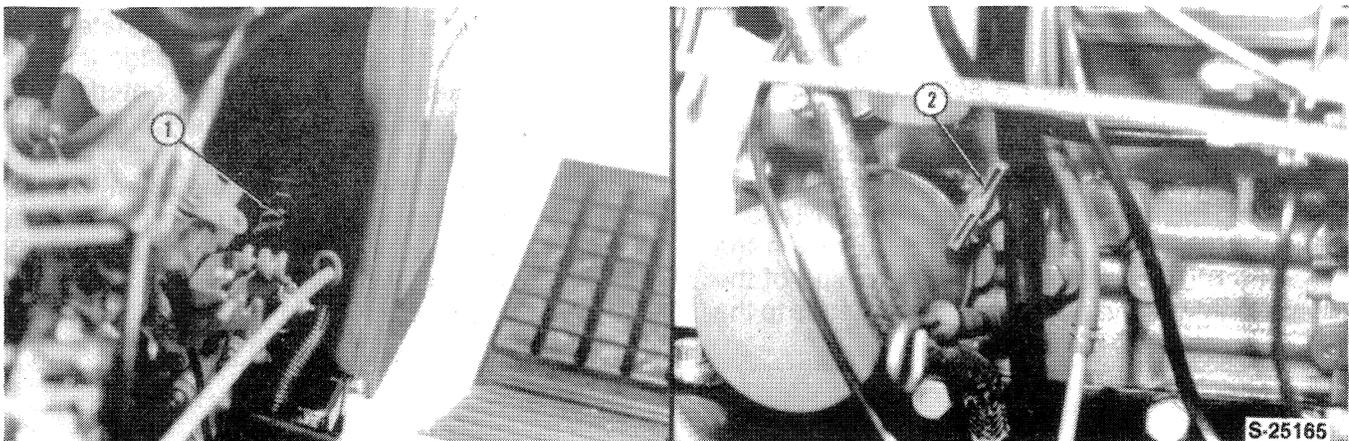

FIGURE 1-5
3. Drain the coolant from the radiator and engine block, Figure 1-5.